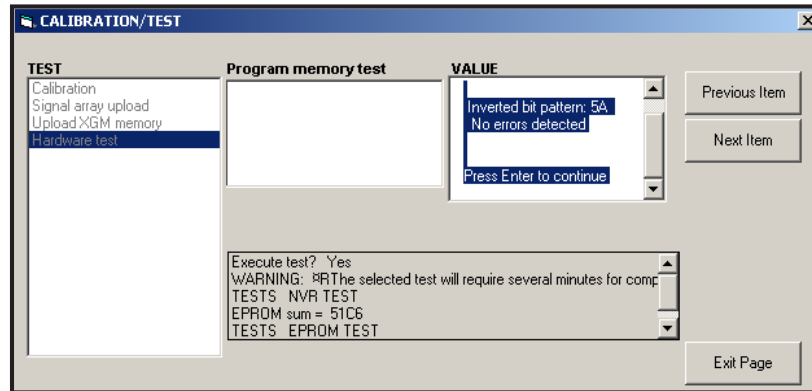

Figure 15: Completion of the NVR Test
4. If the NVR passes the test, the screen appears similar to Figure 15 on page 56. Click [Exit Page] to return to the *Hardware Test* option, and [Exit Page] again to return to the main *Calibration/Test* menu.